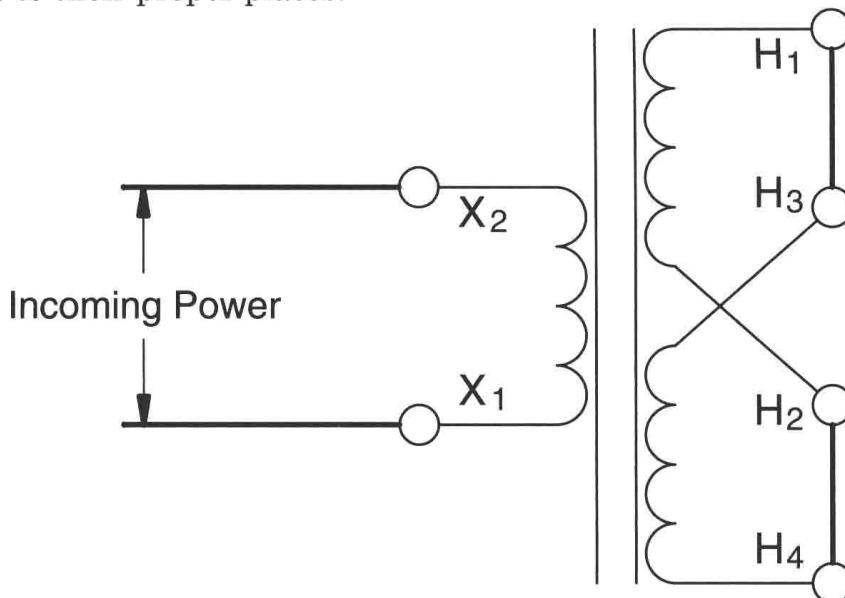

Figure 19-12 The transformer has a turns-ratio of 1:2.
17. Disconnect the lead between terminals H₂ and H₃. Reconnect the transformer so that the high-voltage windings are connected in parallel by connecting H₁ and H₃ together and H₂ and H₄ together as shown in Figure 19-12. Do not disconnect the power leads to terminals X₁ and X₂. The transformer now has a turns-ratio of 1:2.